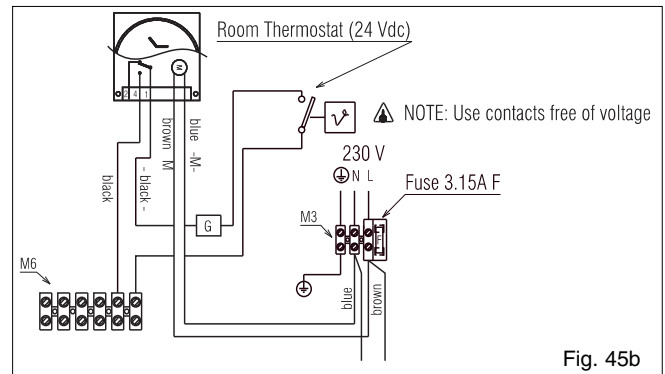

Fig. 45b
- programmable room thermostats (fig. 45b)